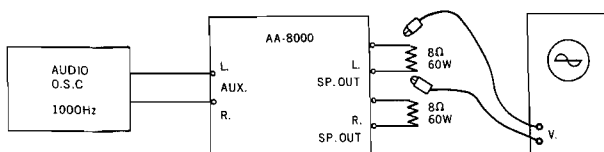

Fig. 1
- Connect an 8  $\Omega$  60 W resistor to the left and right channel speaker terminals, and connect the oscilloscope across this resistor (see Fig. 1).
- Connect instruments as shown in Fig. 1 and use a VTVM in place of the oscilloscope.